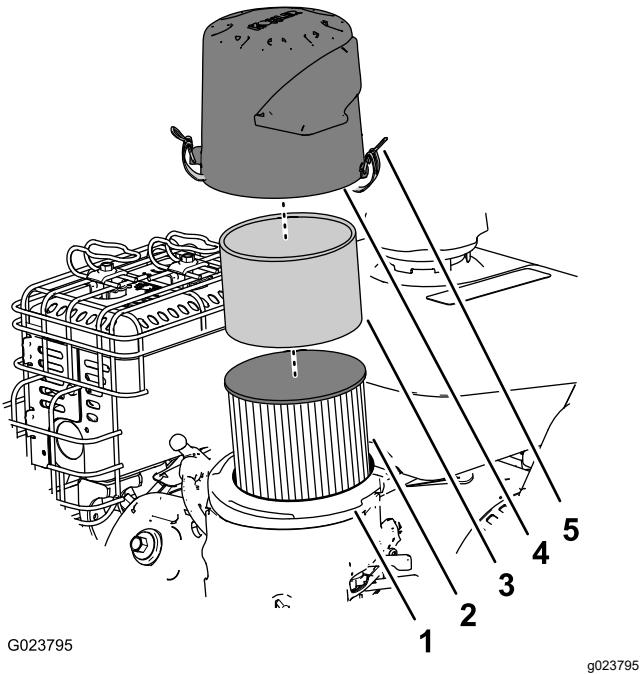

Figure 25
2. Remove the cover and clean it thoroughly (Figure 25).
3. Remove the foam pre-cleaner, wash it with a mild detergent and water, and then blot it dry (Figure 25).
4. Remove and inspect the paper air filter (Figure 25); discard it if it is excessively dirty.
6. Install the foam pre-cleaner onto the paper air filter (Figure 25).
7. Install the air filter assembly to the air-filter base (Figure 25).